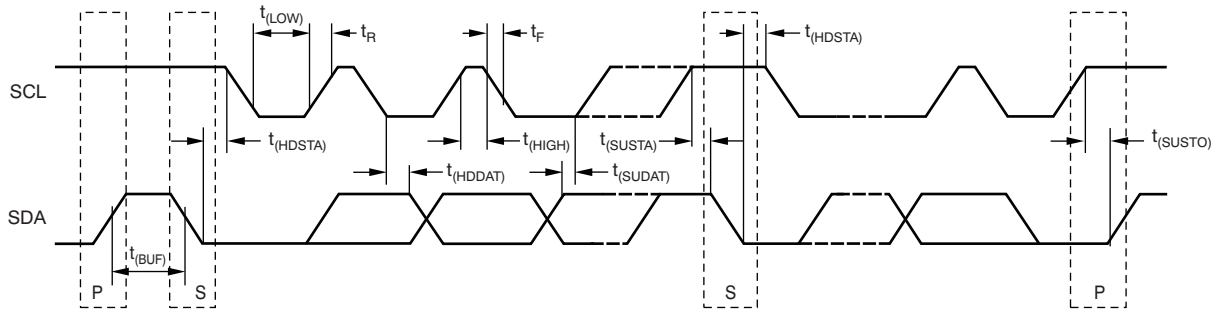

Figure 1. Two-Wire Timing Diagram
6.6 Timing Characteristics for Figure 1